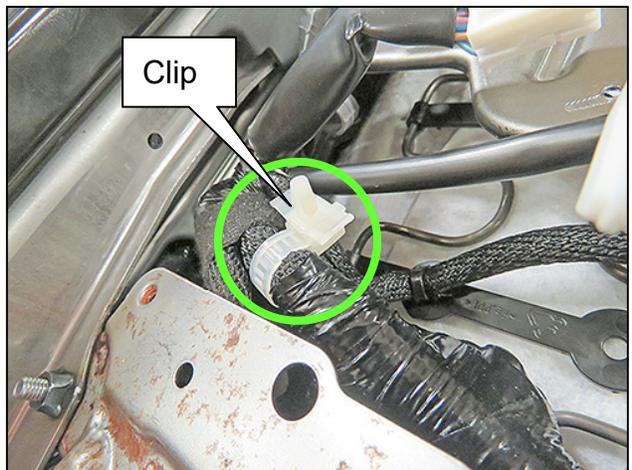

Figure 25
32. Detach the “white harness clip” (clip) from the seat frame. See Figure 24 and Figure 25.
- Clip shown detached from seat frame in Figure 25.